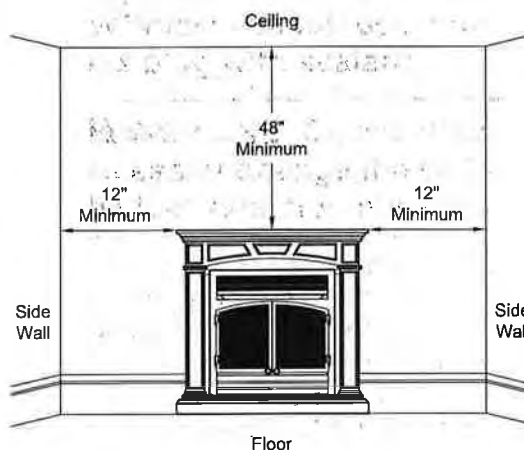

Figure 7 - Minimum Clearance for Combustible to Wall and Ceiling
- A. Clearance from the side of the fireplace to any combustible material and wall should not be less than 12" (see Figure 7).